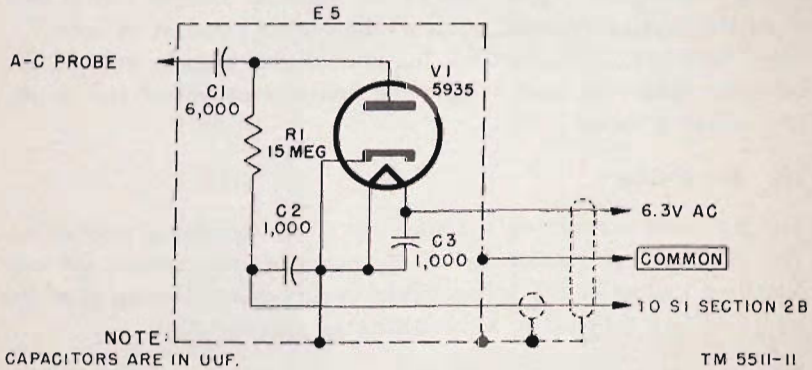

Figure 11. A-c probe, schematic diagram.
e. **A-C PROBE.** The a-c probe (figs. 11, 20, and 21) consists of a diode mounted in a holder. In addition, there is a coupling capacitor, a coupling resistor, and bypass capacitors. The diode acts as a rectifier which changes the applied ac to dc. The dc is then applied to the
a. The a-c probe (figs. 11, 20, and 21) consists of a diode mounted in a special holder to enable the probe to make accurate measurements at high frequencies. The a-c probe (fig. 11) consists of a diode (V1) connected in the circuit as a shunt half-wave rectifier, an input coupling capacitor (C1), an input resistor (R1), and bypass capacitors (C2 and C3). Because of the high value of the input resistor (15 megohms) and the input capacitor (6,000 uuf), the diode is essentially a peak indicating rectifier. The scale of the instrument is calibrated to read rms volts for a sine wave input. For nonsinusoidal input voltages, the instrument reads .707 of the peak value. Diode V2 (6AL5) acts as a balancing diode and is used to buck out the contact potential of V1 with no input applied